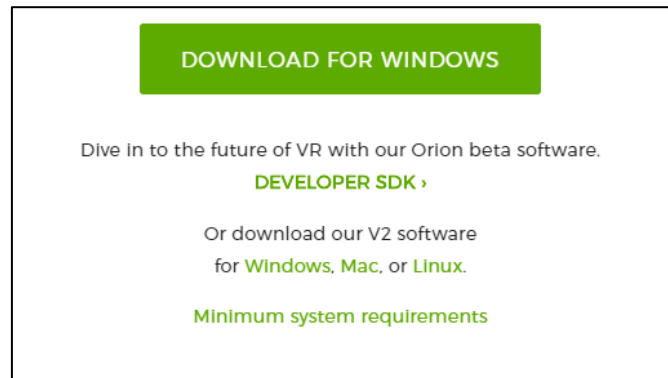

Figure 5.106 Download the Leap Motion driver software for Windows
- The Leap Motion driver software has been obtained. Download the Windows version, as shown in Figure 5.106, from the <https://www.leapmotion.com/setup/desktop/windows>.